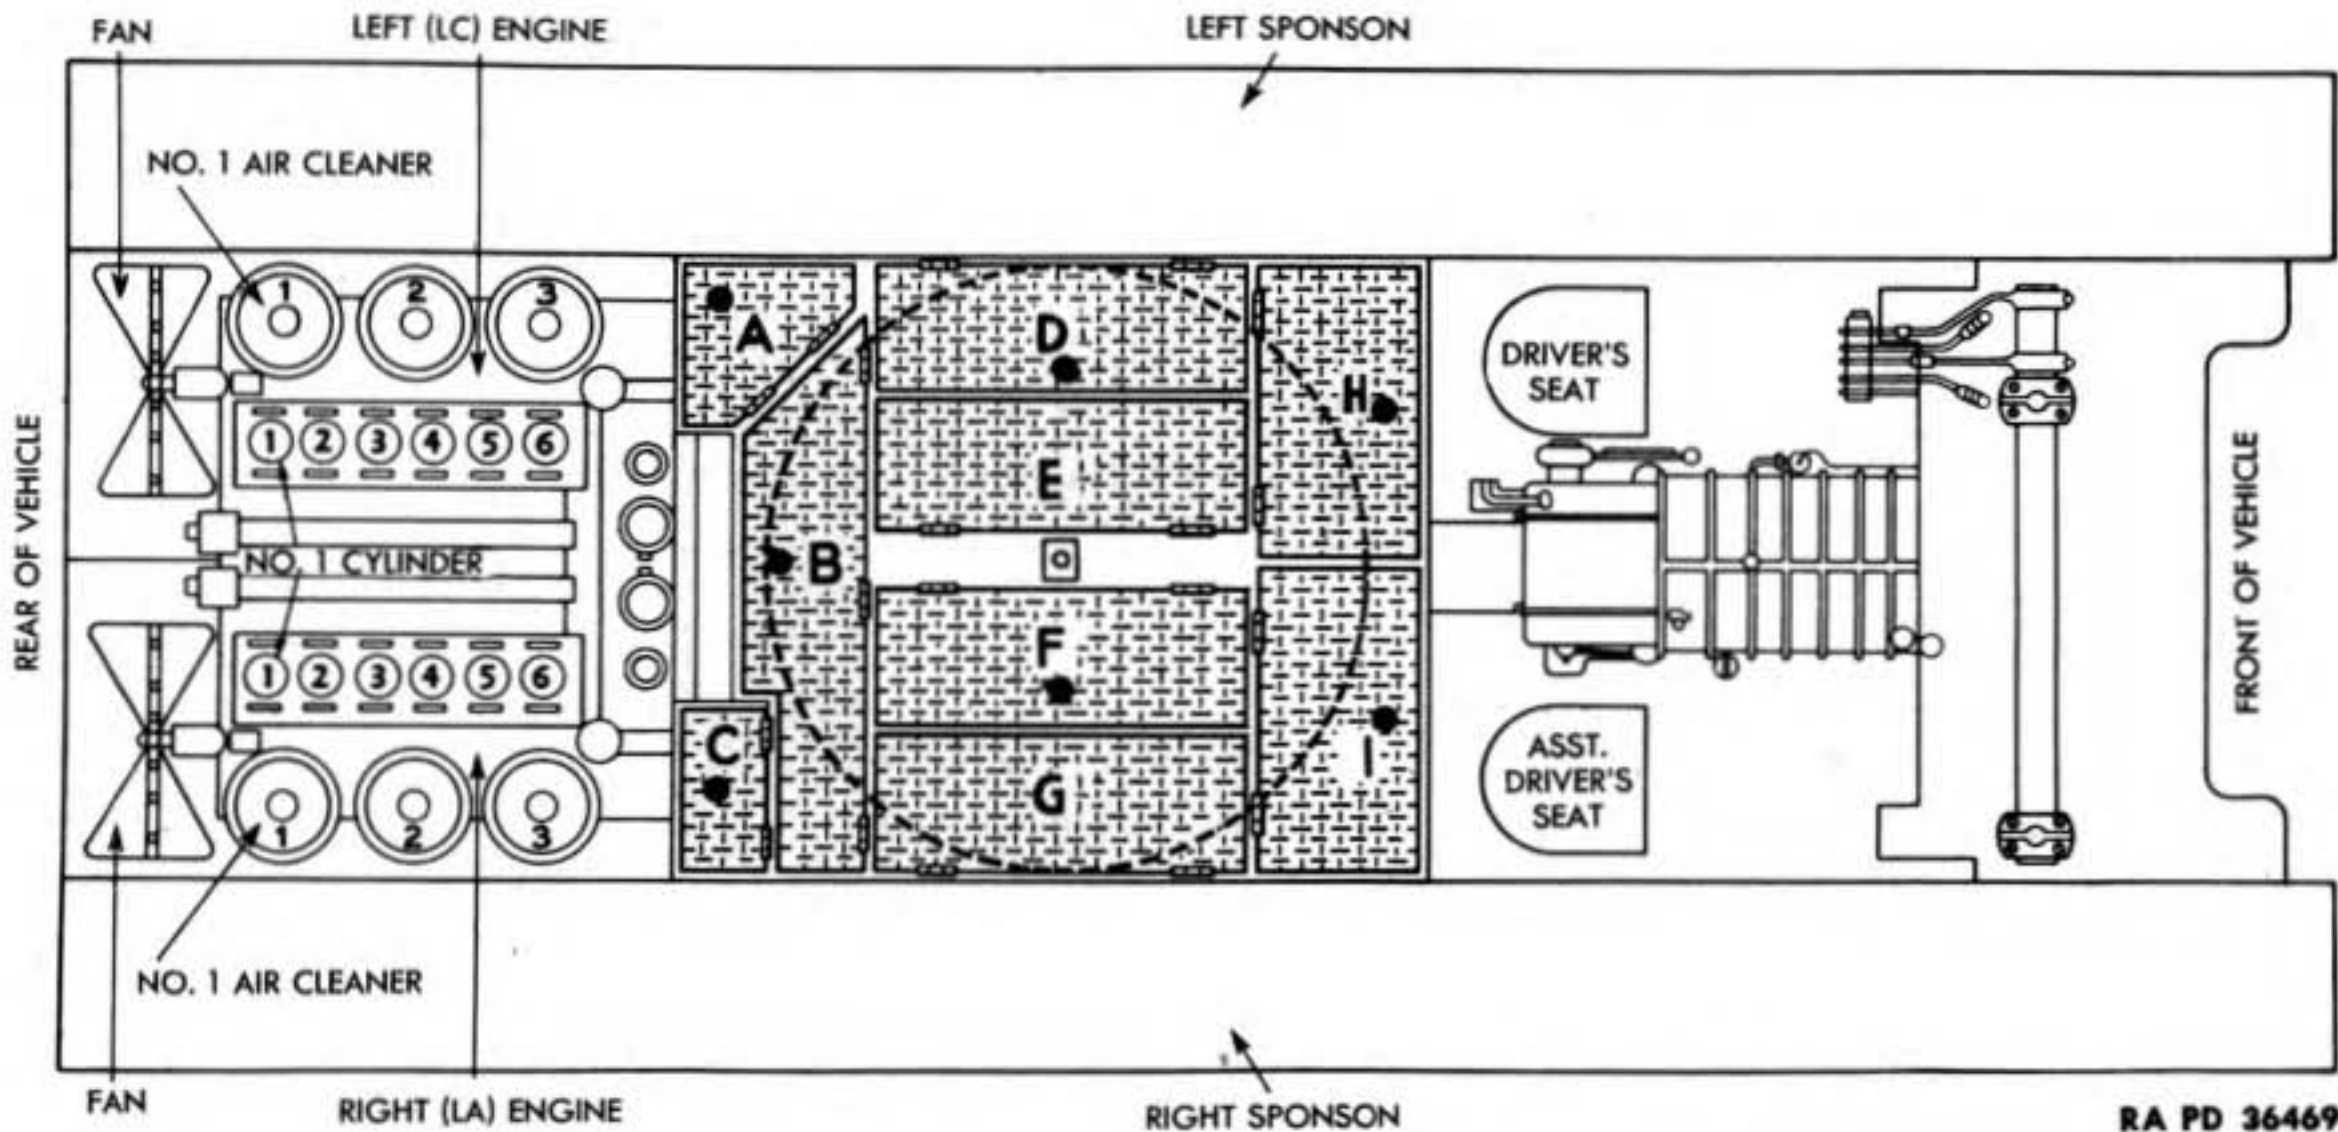

Figure 33—Position of Units in Vehicle
a. General. The power unit of the M10 is in the rear of the vehicle with the fan ends of the engines toward the rear, and flywheel ends toward the front of the vehicle. To avoid any possibility of confusion in ordering parts or in instructions for maintenance of the engines, it is necessary to firmly establish the following designations and terms (fig. 33).
b. Left Engine and Right Engine. All references to left and right refer to these positions when sitting in the driver's seat facing forward (fig. 33): Therefore, the left engine (designated by letters LC on engine serial number plate) is on the left side of the vehicle. The right engine (designated by letters LA on engine serial number plate) is on the right side of the vehicle. To avoid confusion when ordering parts for the engines the designations LC or LA as given on serial number plates will be used and the terms left engine and right engine will be avoided. This is very important as all the non-interchangeable parts as listed in Standard Nomenclature Lists and Service Parts Catalogs are designated LC or LA.